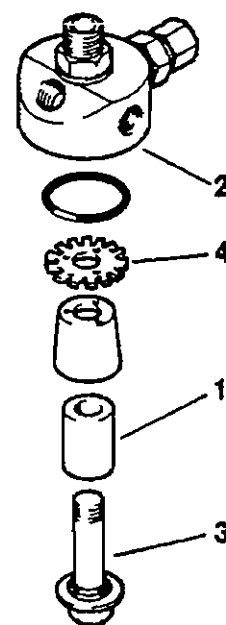

Fig. 6.1 Inter-filter
An inter-filter (fig. 6.1) is mounted on the compressor between the compressor stages.¹ Inter-filters are designed to remove excessive water and oil accumulation due to cooling in the compression process. Separation is achieved by means of centrifugal action provided by a centrifugal insert or by a baffle (4). A sintered metal filter (1), if provided, helps remove dirt contamination.